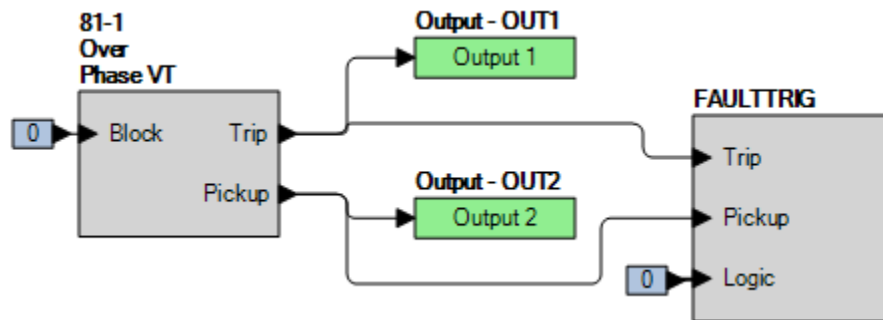

Figure 61-1. BESTlogicPi+ Settings (Overfrequency)
Step 2: Use BESTCOMSPi+ to configure the BESTlogicPi+ programmable logic shown in Figure 61-1.
Step 4: Prepare to monitor the 81-1 function operation. Operation can be verified by monitoring OUT2 (see Figure 61-1).